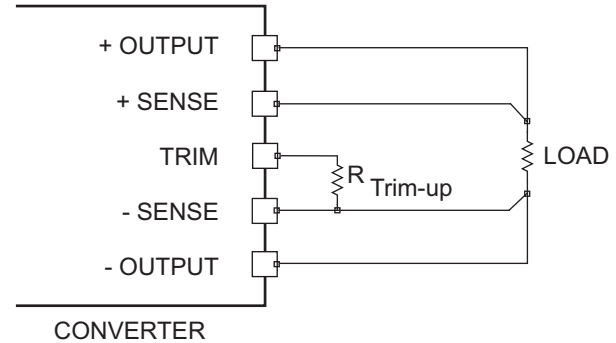

Figure 3.
(1) Trim up output voltage: Connect a resistor or potentiometer between "Trim" pin and "-Sense" pin, if there is remote sensing function. Or between "Trim" pin and "-Output" pin if there is no remote sensing function. See Fig. 3. Place the resistor or potentiometer as close to the two pins as possible.